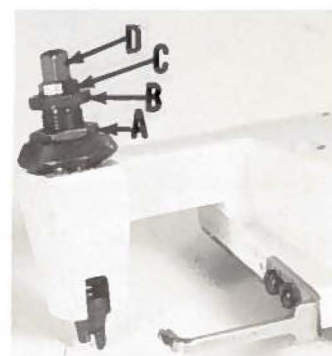

Fig. 2
Sufficient presser foot pressure to feed work uniformly should be maintained. Should it be necessary to increase or decrease amount of pressure on presser foot, loosen lock nut (A, Fig. 2) and turn adjusting screw (B). Adjusting screw has a right hand thread so tightening increases pressure, loosening decreases pressure. When pressure adjusting screw (B) has been properly set, tighten lock nut (A). With presser foot resting on throat plate, position locking nut (C) so that its under surface is approximately $\frac{1}{32}$ inch to $\frac{1}{16}$ inch from the top surface of adjusting screw (B). Set cap (D) against locking nut (C).